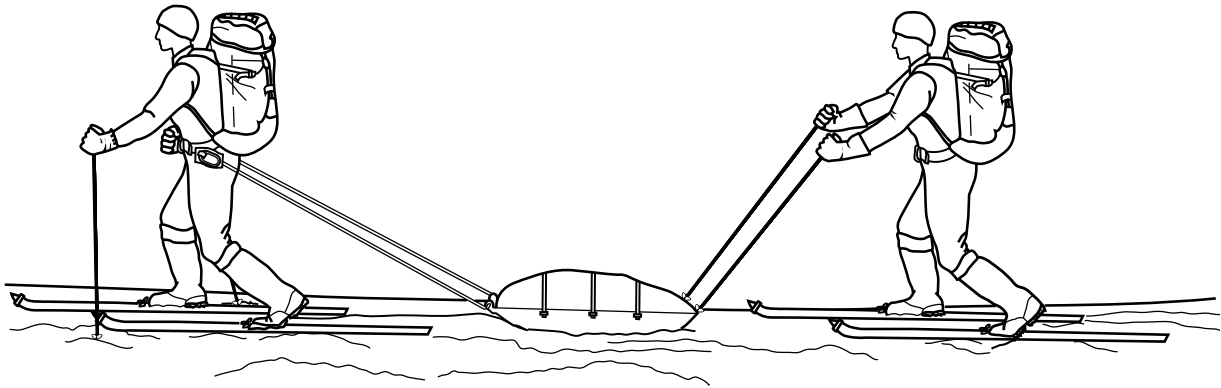

Figure 7-5. Assisting the Sled Puller.
- One team member can assist the sled puller by pushing the sled from the rear with the poles, as shown in Figure 7-5.